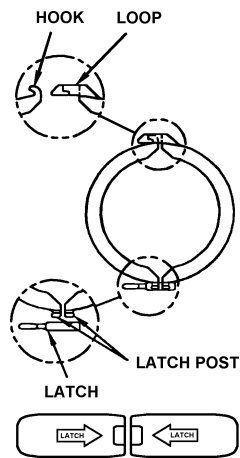

Figure 5. CLAMP ASSEMBLY
Step 1 a) Remove the CONTROL VALVE by removing the latch and then the clamp around the adaptor base (Figure 5). Before loading the MEDIA into the tank, the distributor must be all the way to the bottom of the tank. It is therefore recommended that the distributor be removed and the gravel dumped out and saved. The distributor tube should then be replaced in the empty tank making sure it rests on the bottom. Use the centering tool provided to hold the riser tube in center and prevent MEDIA from entering the distributor. Material lodged in the distributor tube can enter the CONTROL VALVE, thus damaging it. First pour the gravel removed earlier back into the MEDIA TANK, followed by the MEDIA.